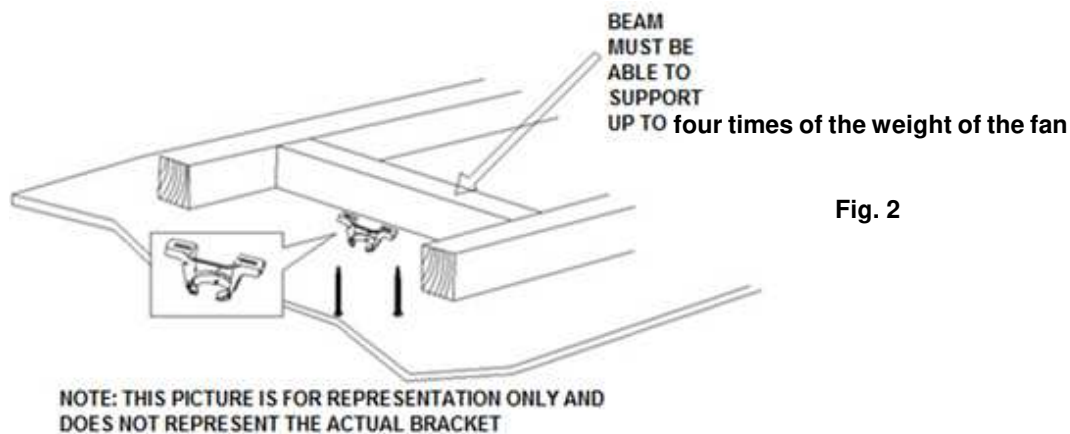

Fig. 2
- Install the hanging bracket to the ceiling joist or structure that is capable of carrying a load of at least four times the weight of the fan, using the two long screws provided. Ensure at least 30mm of the screw is threaded into the support. (Fig. 2)